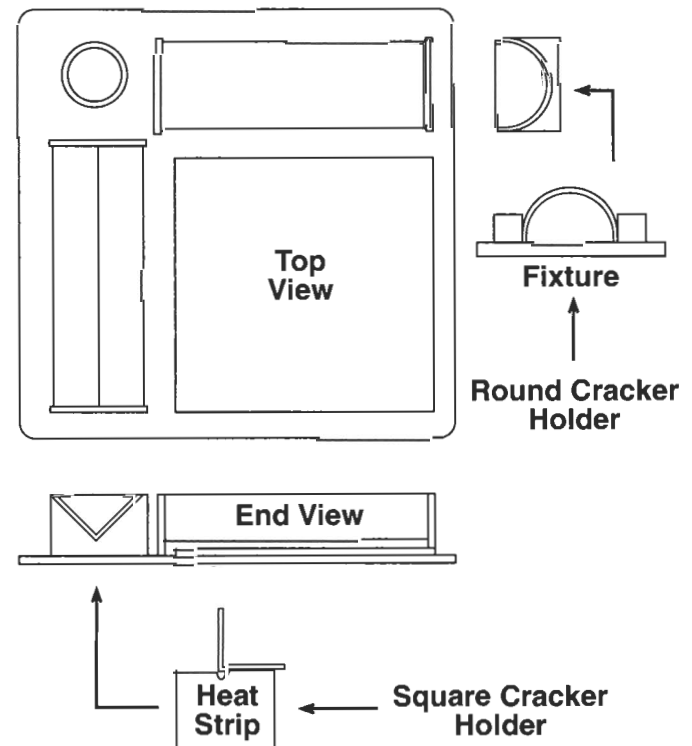

Figure 2 - Cracker holders detail.
cracker holder is first heated in an oven, then placed in a fixture. (See figure 2.)
6. Place the square cracker holder, paper off, on the **heat strip**. (Consult figure 2 to show alignment and fold to 90 degrees.)
7. For the rounded cracker holder, a fixture will have to be constructed as shown in figure 2. Remove the paper, heat to 500 degrees in an oven, and when the acrylic is **mal-leable**, place it in the fixture to form the **radius**.